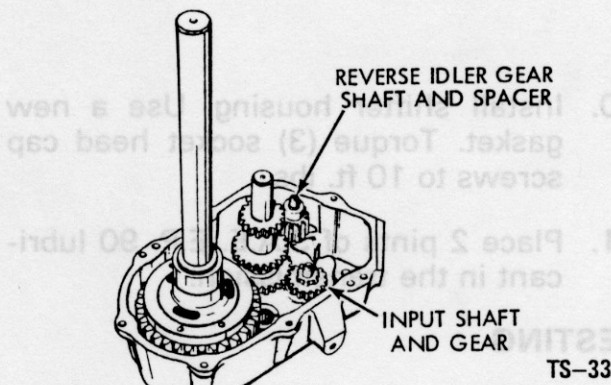

Figure 37 - Reverse Idler Gear and Shaft
5. Place the reverse idler shaft (Figure 37) in the case, then install the 22-T spur gear (tooth bevel up) and the 1/2" x 1/2" I.D. spacer on the reverse idler shaft.